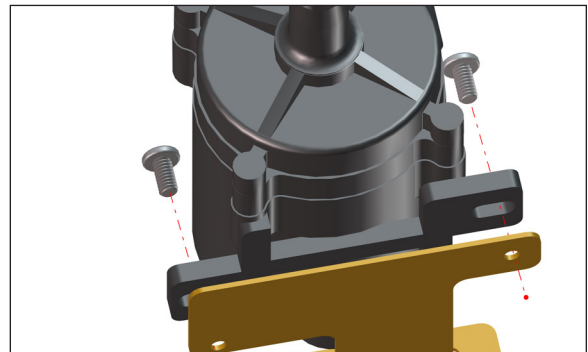

Figure 68 - Step 1 Remove pump from bracket
10. Use a #2 Phillips screwdriver to remove pump from the bracket (Figure 68).